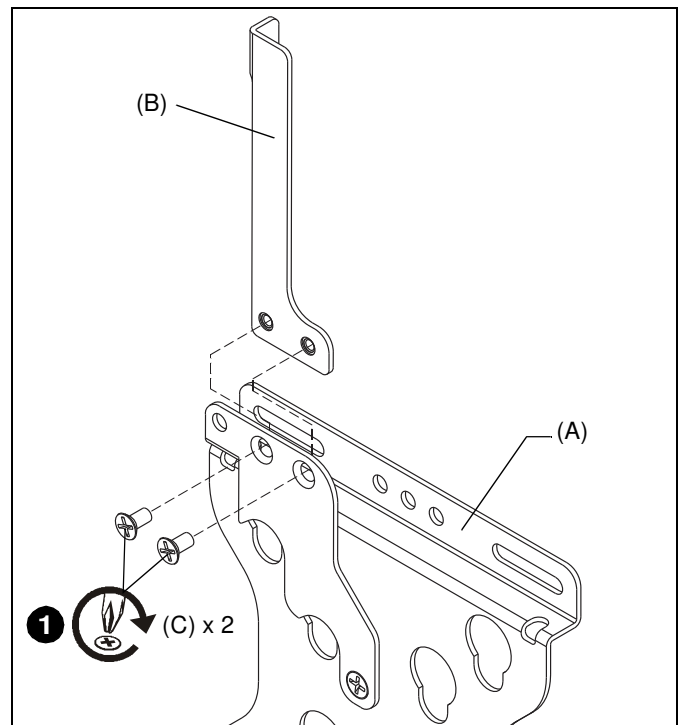

Figure 6
1. **OPTIONAL:** If installing a 32" or larger display, attach the flag extension (B) to the latching flag on the FSR1U/FSR100 using two 10-24 x 3/8" Phillips flat head screws (C). (See Figure 6)